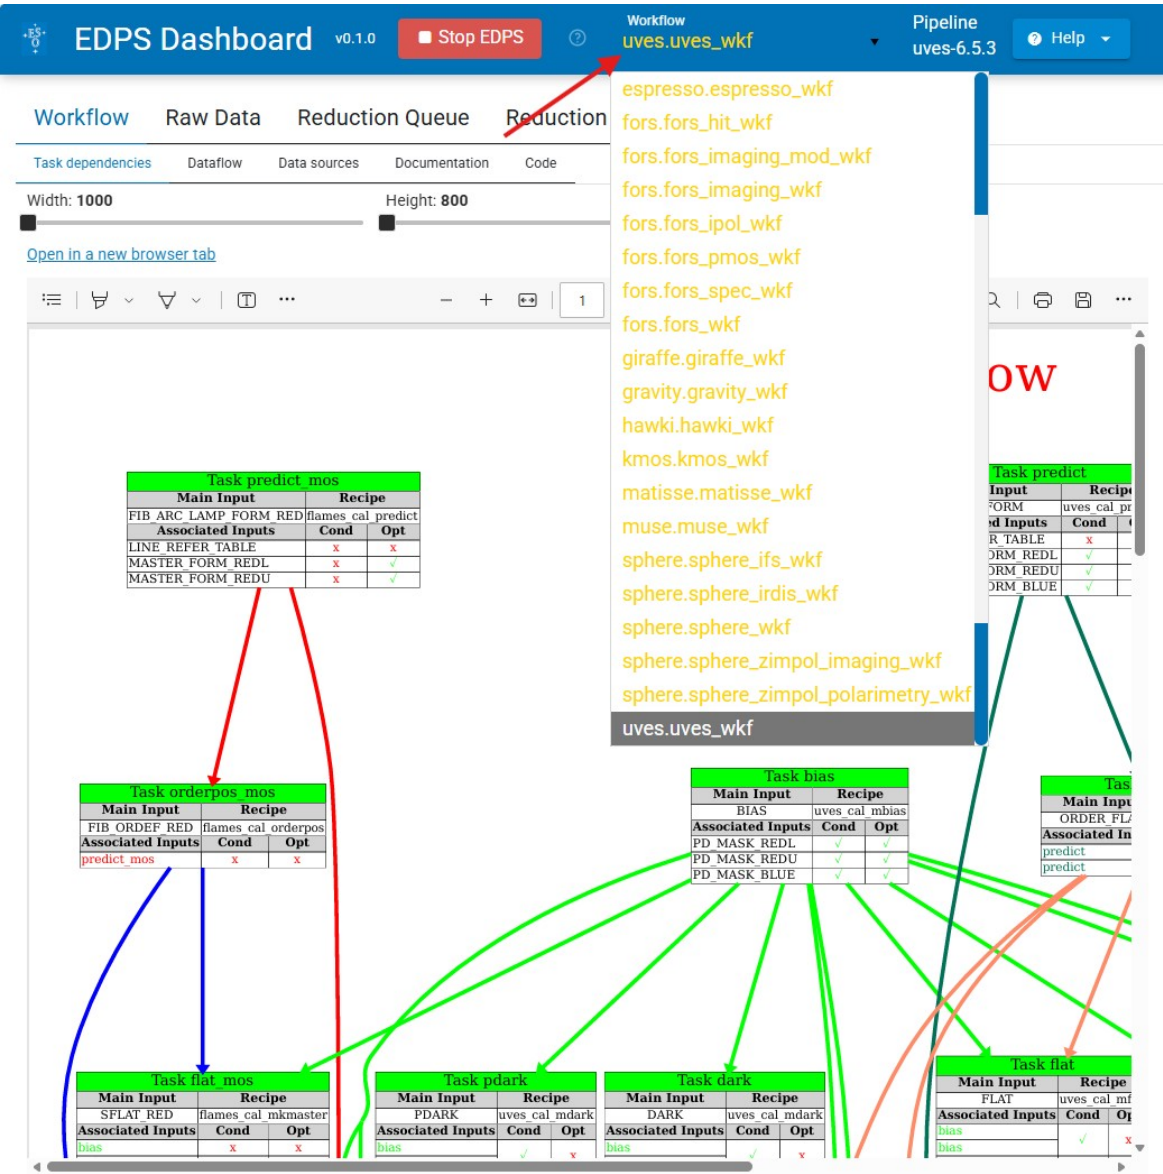

Figure 4: The edps-gui with the UVES workflow loaded.
5. Choose the `uves.uves_wkf` workflow from the list in the ‘Workflow’ field. The workflows offered in this selector depend on the installed pipelines. The graphic workflow representation will appear as in Figure 4.